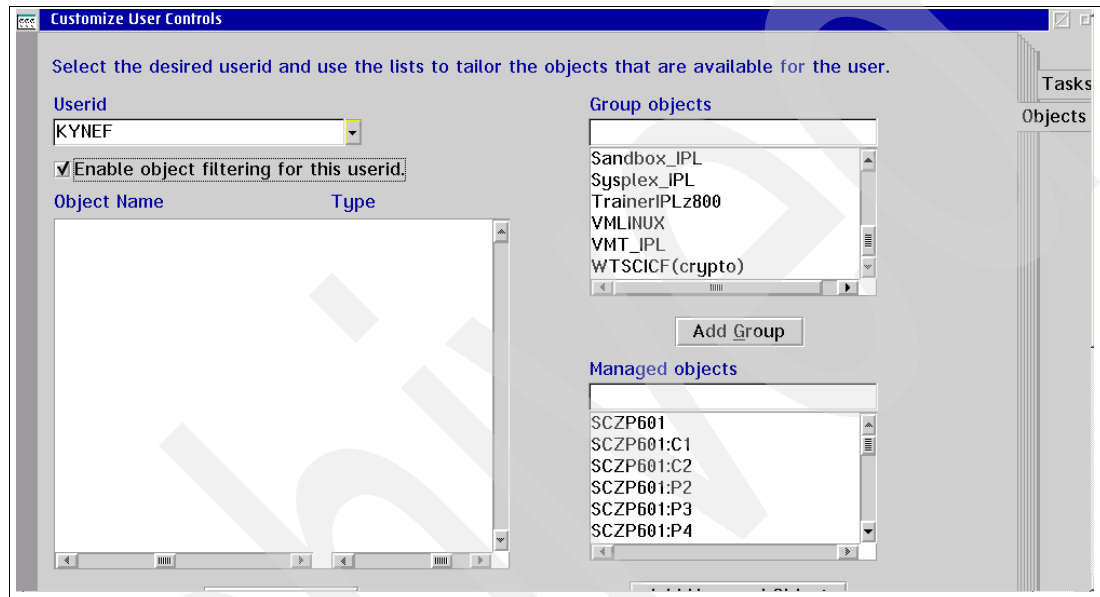

Figure 19-1 Customizing HMC user access
14. HMC groups contain logical collections of objects. They provide a quick and easy means of performing tasks against the same set of objects more than once. The Groups Work Area on the HMC contains the groups that a user has been authorized to. There are both system-defined groups, which are provided with the system and consist of all CPCs or all images that are in the HMC Management Domain, and user-defined groups which can be created from these groups to represent views of CPCs or images that your installation wishes to work with. Figure 19-1 shows the screen in the Customize User Controls dialog where you can specify which groups, and which object within those groups, a given user can manage. *Hardware Management Console Operations Guide*, SC28-6809 contains further information.